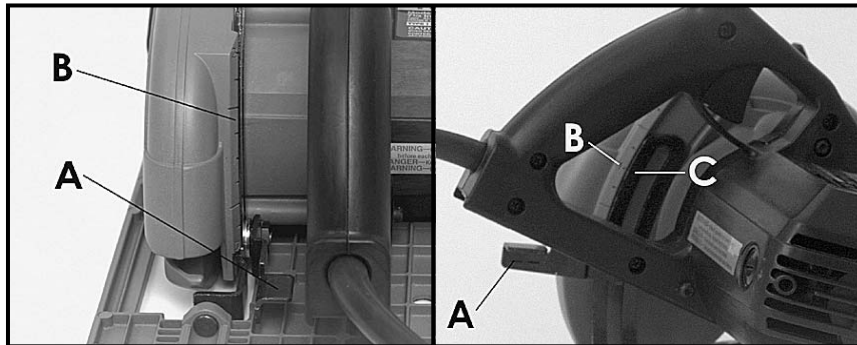

Fig. 4
2. Lift up depth adjustment locking lever (A) Fig. 4, at rear of saw.
NOTE: The upper guard (B) Fig. 4, is marked in $\frac{1}{4}$ " increments for convenience in setting depth of cut. Align the depth segment mark (C) Fig. 4, with the desired depth marking on the guard.